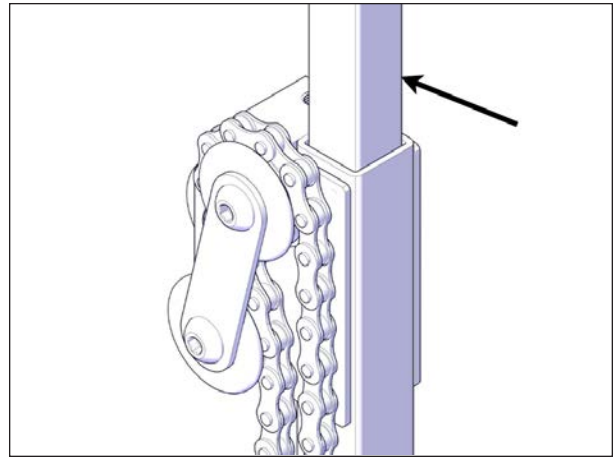

FIGURE 90: SLIDING PARTS GREASING
8. Spray grease on all the sliding parts and mechanical components for all four jacks see Figure 90.